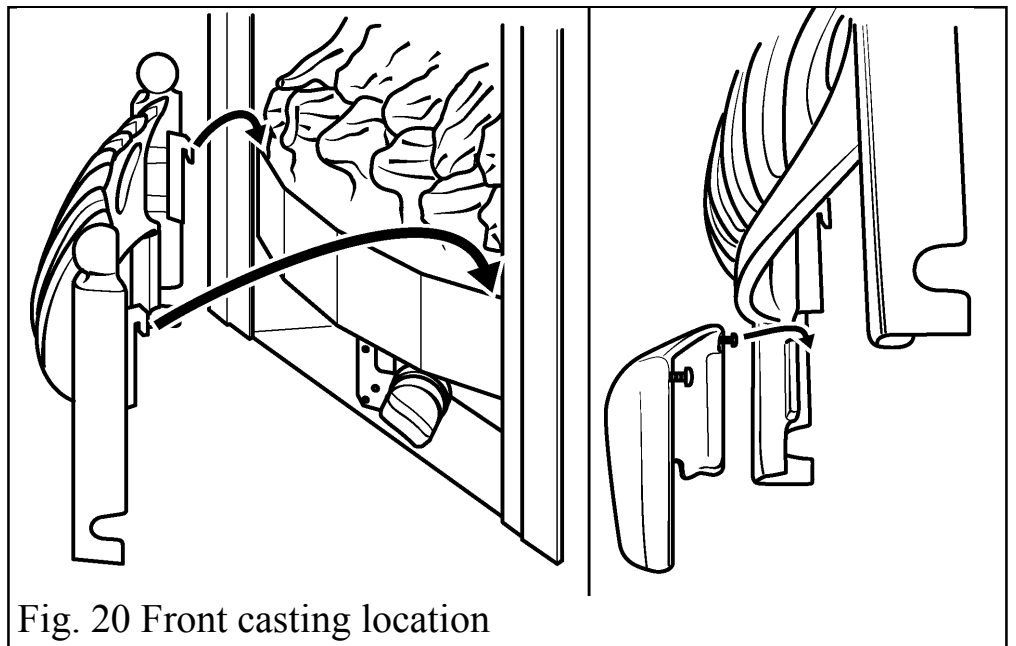

Fig. 20 Front casting location
- Place the main front casting in position by hooking its rear side plates over the front rim of the burner and outside each end of the front coal. See figure 20.
- Place the bottom front casting below the main front casting locating the screw heads over the flanges on the main casting legs. See figure 20.